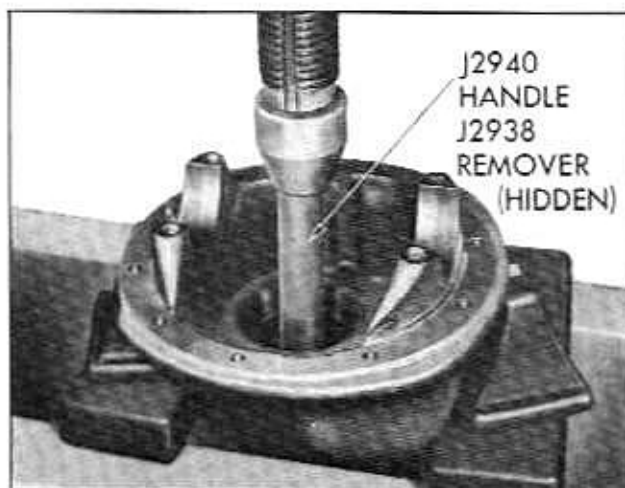

Fig. 4-29 Removing Front Bearing Outer Race With Remover J-2938 and Handle J-2940
11. Wash front bearing inner race in cleaning fluid and examine for damaged rollers or pitted inner race. Clean outer race in carrier and examine for failure. Place inner race in outer race and turn while pressing. If bearing turns smoothly and has no visual defects, do not remove outer race from carrier. If bearing is to be replaced, press outer race from carrier using Remover J-2938 and Handle J-2940 (Fig. 4-29).